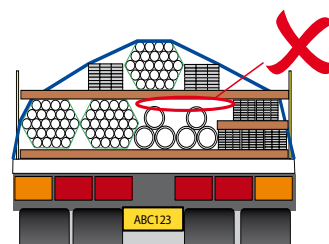

Figure 5.5: Dunnage that bridges products may break and transfers no down force from the restraints.
- There is no down force applied to packs where there is a gap between layers (see Figure 5.5). Use criss-crossed bearers to bridge gap or reconfigure load to prevent gaps.